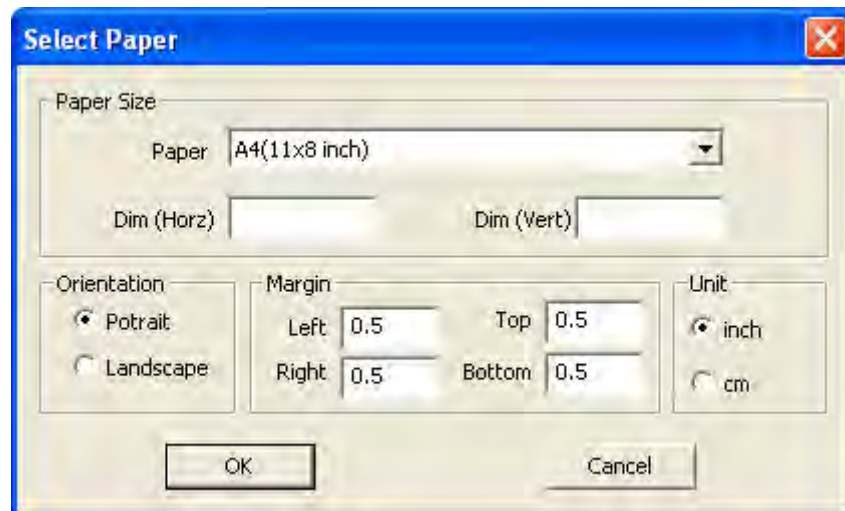

Figure 47 : Setup paper size
1. Click **Paper** button. A dialog appears. (Figure 47)